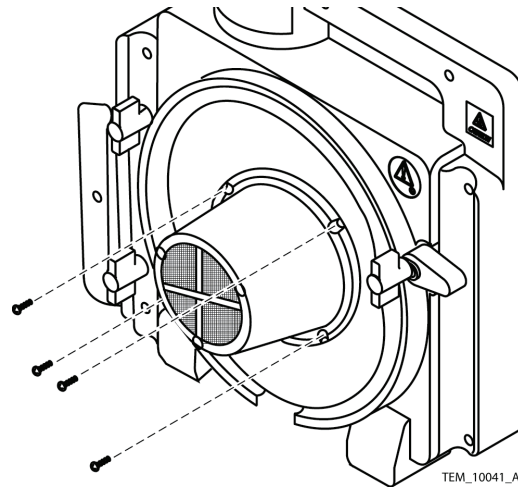

Figure 76. Blower Screws
35. Install the blower assembly mounting screws into the rear cover assembly. Tighten the screws to 4 to 6 in/lbs (10 to 15 cm/kg). See Figure 76.